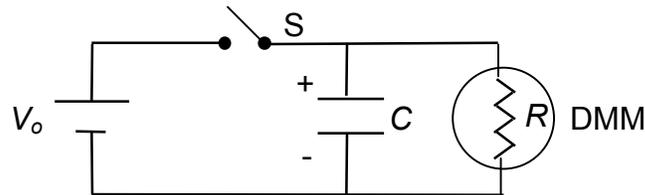

FIGURE 2
1. Build the circuit as shown in Fig. 2 below. V_o is supplied by the Lambda Power Supply (PS); C is supplied by the capacitor marked C_1 on the board; and the DMM is to be used as the resistor, R . (It will also act as a voltmeter to measure V_C .) NOTE: *Electrolytic capacitors are used in this experiment and the red terminal of the capacitor MUST be connected to the positive voltage or the capacitor will EXPLODE!*